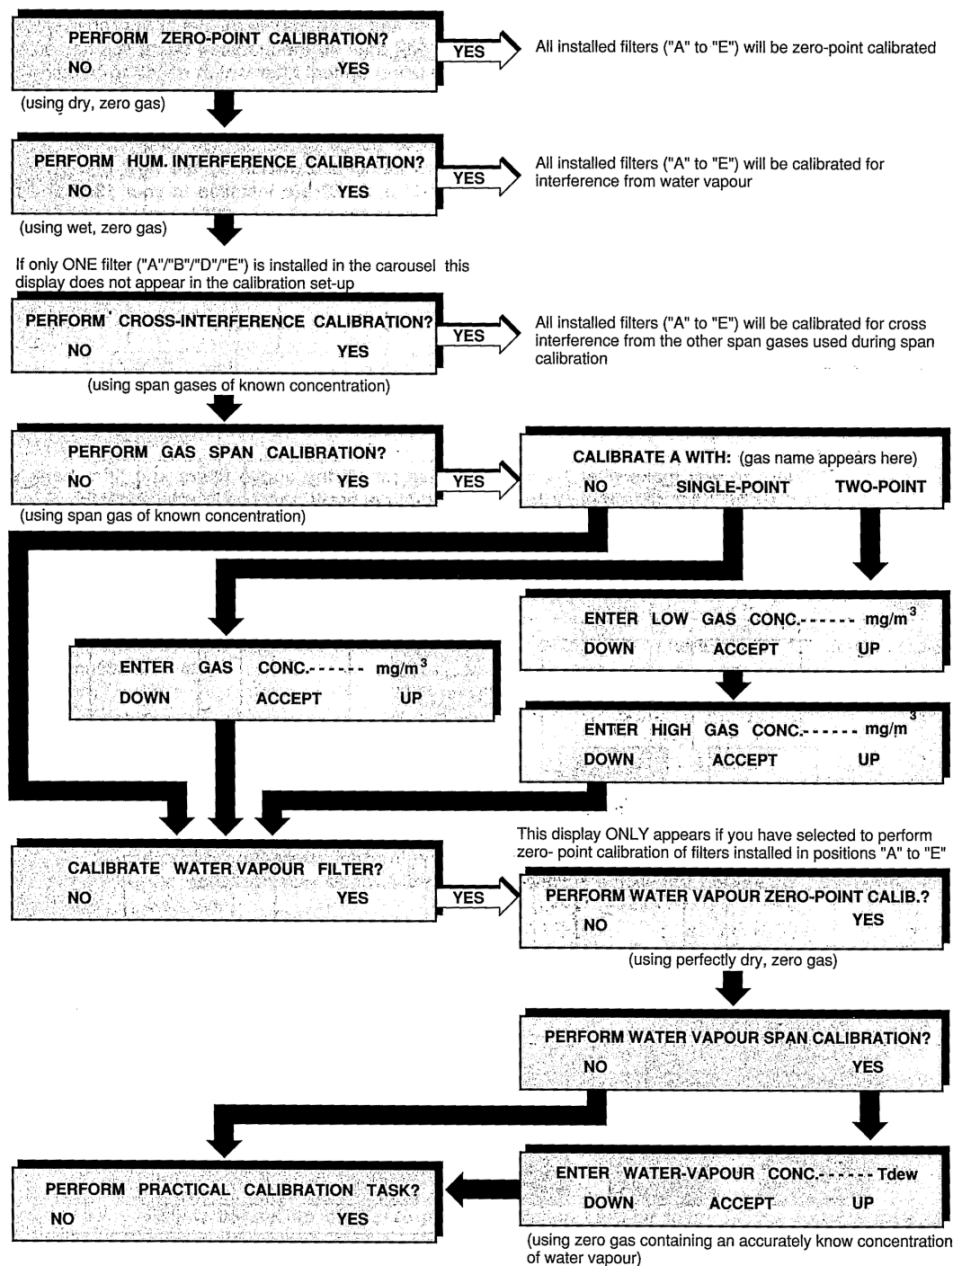
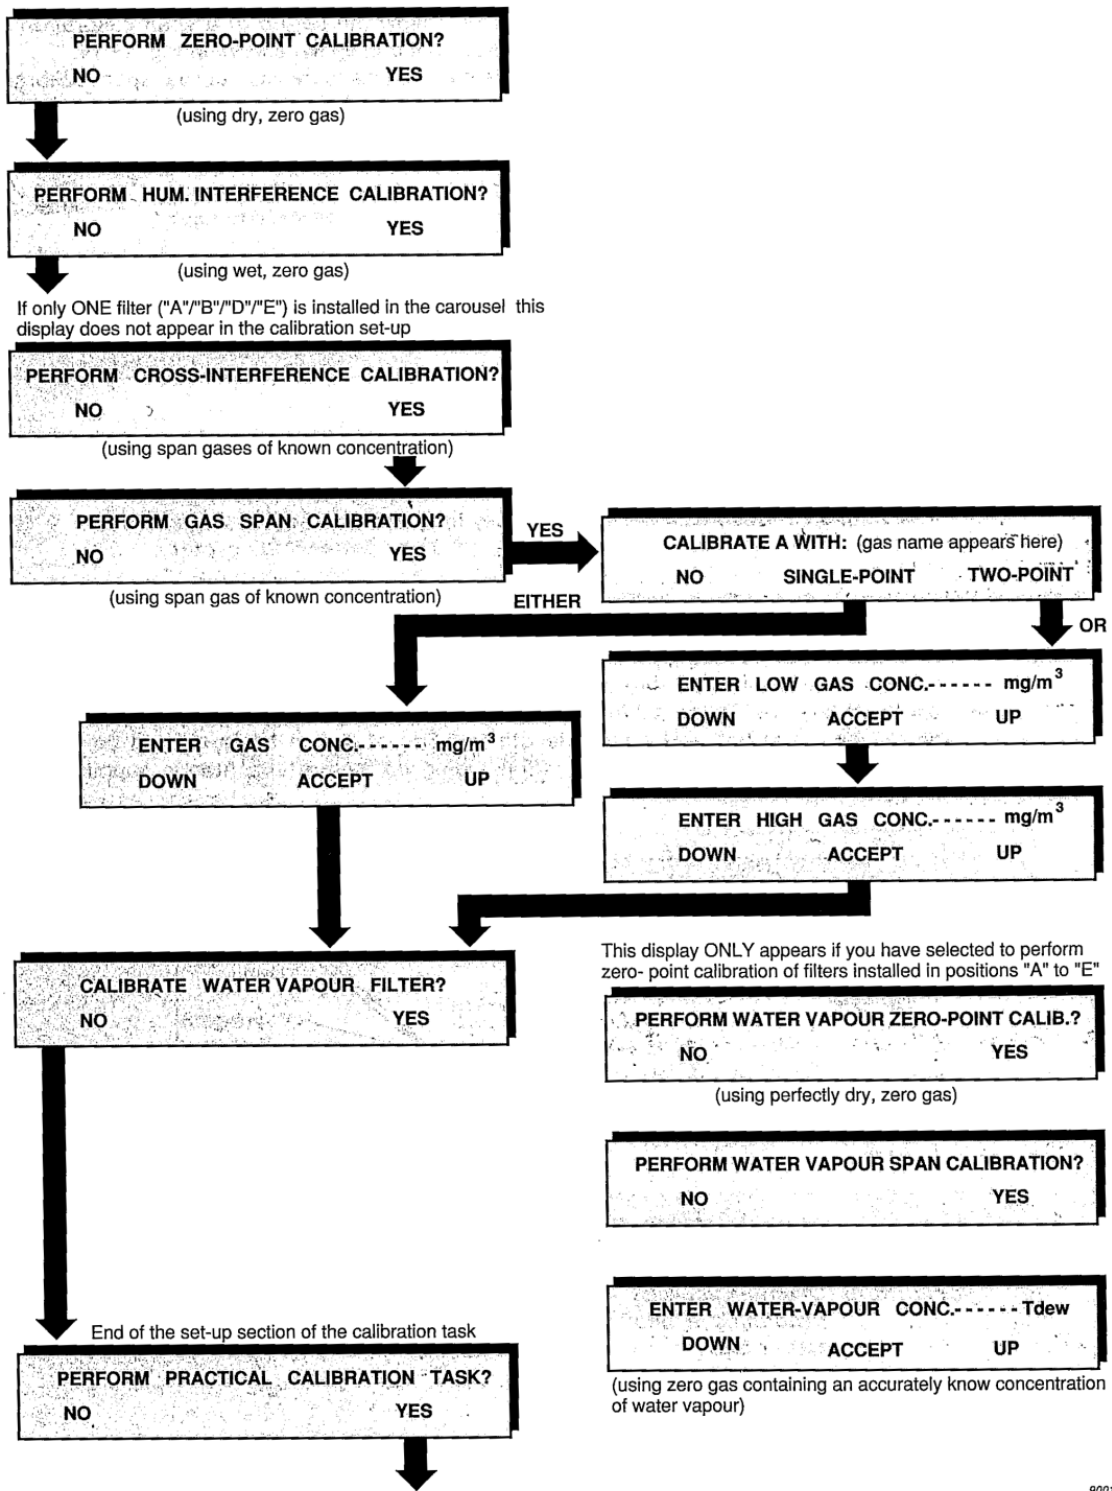

Figure 36. Schematic diagram showing the general calibration task Set-up “Tree”. (7)
Figure 37. Schematic diagram showing how to set-up a combined cross-interference and span calibration task. (7)
The description of different types of calibration tasks can be found in sections 4.3 *Zero point (N₂)*, 4.4 *Humidity calibration (H₂O)* and 4.5 *Gas span calibration*. Here only practical information about setting-up different calibration tasks in *Brüel & Kjær 1302 Monitor* will be given. Below on Figure 36 can be found a general schematic diagram showing the calibration task Set-up “Tree”. When setting-up a calibration task in the Monitor you should follow the black arrows according to the type of calibration you want to perform. Exemplary schematic diagram showing how to set-up a combined cross-interference and span calibration task is shown on Figure 37. Additional schemes, if needed, can be found in *Instruction Manual (7)* in chapter 16 *Calibration of the optical filters*.